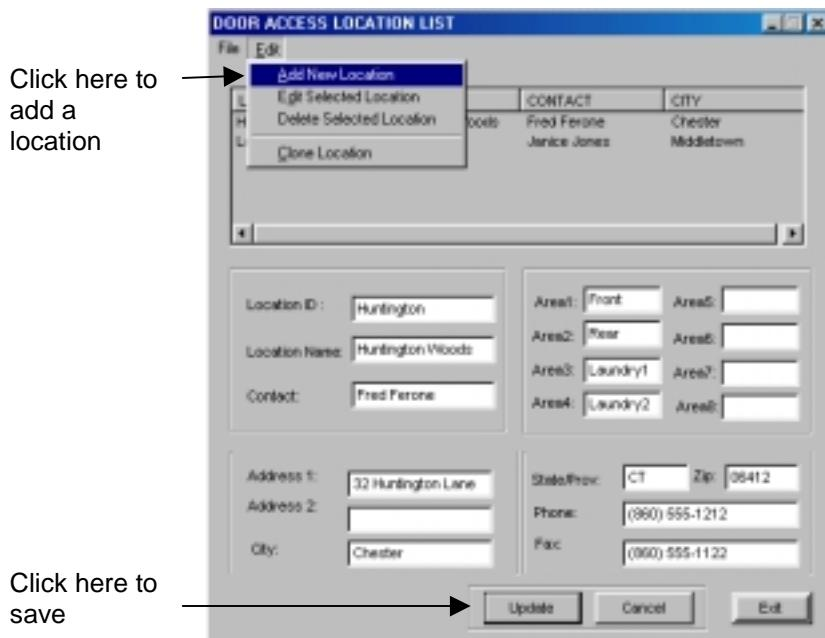

Figure 11.14 Adding a Location
1. In the Door Access Location List window select Add New Location from the Edit drop-down menu (Figure 11.14).
3. Verify that the data entered is accurate and click the Update button to save (Figure 11.14).